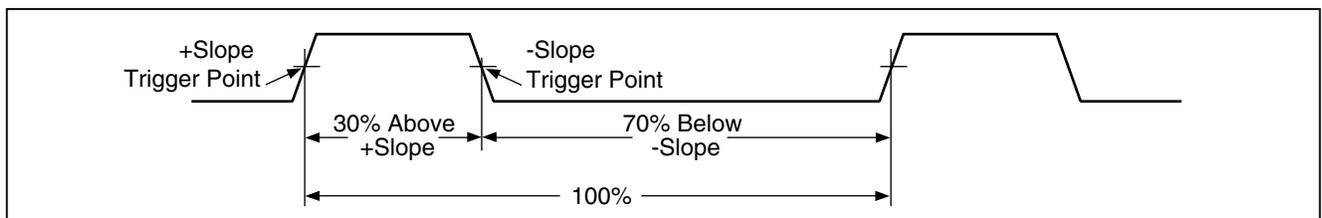

Figure 9. Components of Duty Cycle Measurements
To measure frequency, connect the Meter to the signal source; then press **Hz %**. Pressing **|||||** switches the trigger slope between + and -, as indicated by the symbol at the left side of the display (refer to Figure 9 under "Measuring Duty Cycle"). Pressing **AutoHOLD** stops and starts the counter.
Duty cycle (or duty factor) is the percentage of time a signal is above or below a trigger level during one cycle (Figure 9). The duty cycle mode is optimized for measuring the on or off time of logic and switching signals. Systems such as electronic fuel injection systems and switching power supplies are controlled by pulses of varying width, which can be checked by measuring duty cycle.
2. Press  a second time to measure the signal's duty cycle. Press  to select a measurement of the signal's positive or negative pulse, refer to Figure 9.